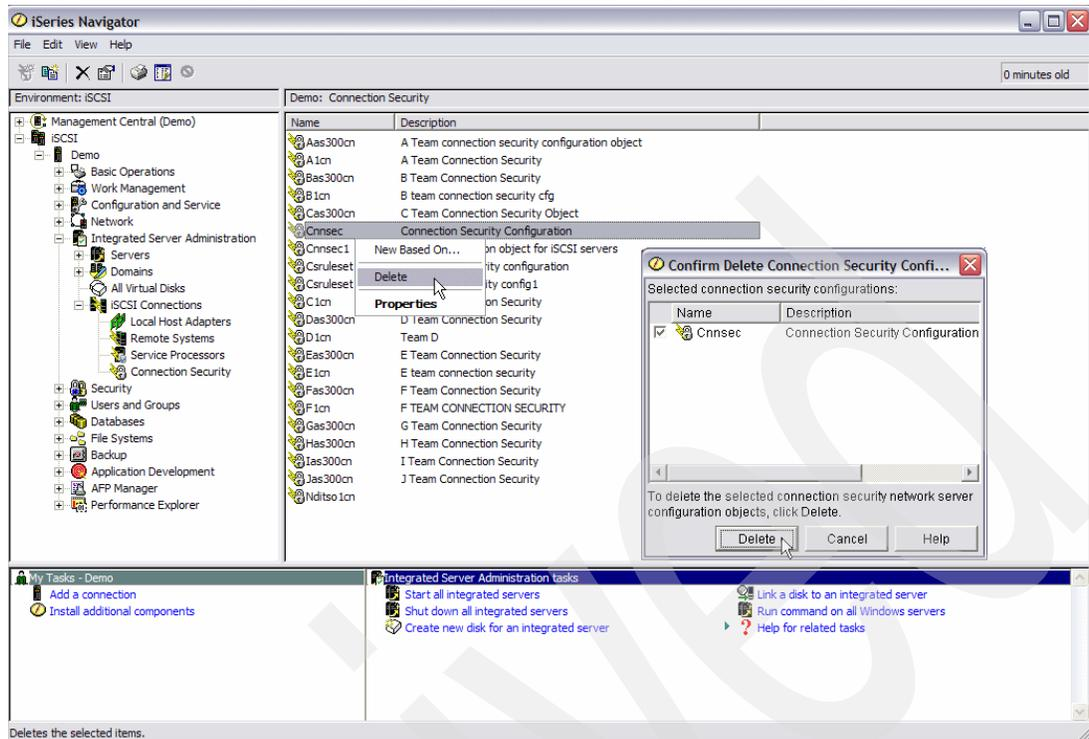

Figure 6-57 Delete CNNSEC in iSeries navigator
- a. Expand **YourSystem** → **Integrated Server Administration** → **iSCSI Connections**. See Figure 6-57 on page 205.